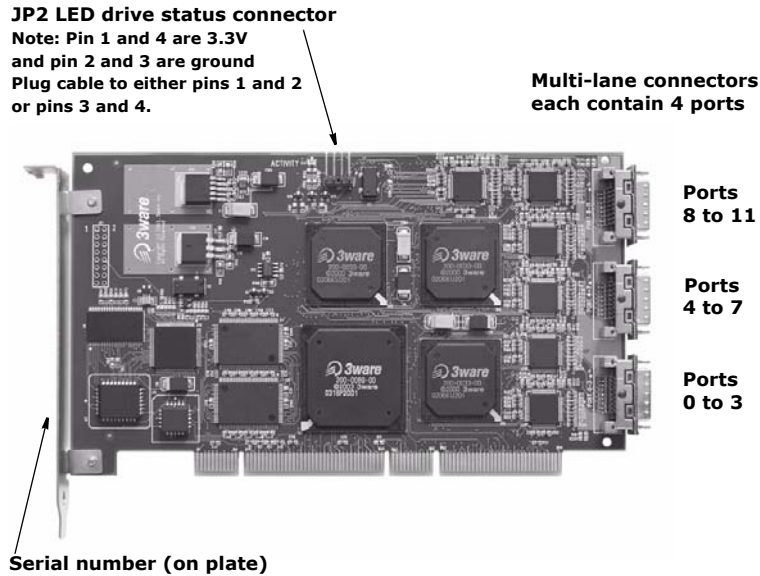

Figure 7. 12-Port Escalade 8506-12MI Serial ATA RAID Controller
- 1 Connect each interface cable to a multi-lane connector on the controller. See Figure 7.